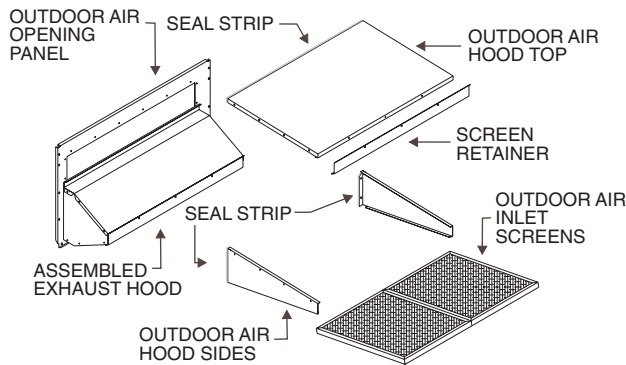

Fig. 25 — Outdoor Air Hood Assembly
- Install the $\frac{1}{8} \times \frac{7}{8}$ in. seal strip on the outdoor air hood top and side panels. Assemble the outdoor air hood to the outdoor air opening panel as shown in Fig. 25, using the screws provided. *Do not attach hood assembly to the unit as this time.*